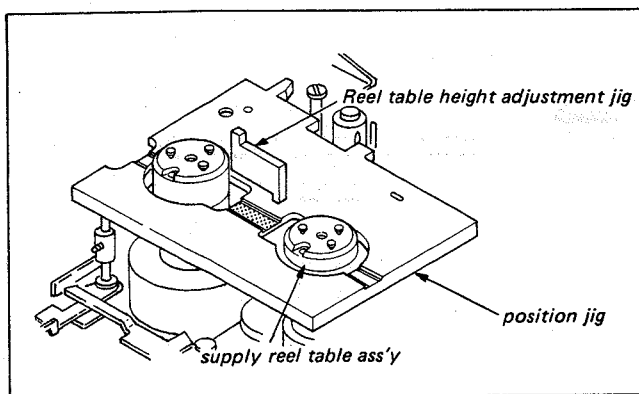

Fig. 4-5. Supply reel table height adj. (EJECT mode)
3. Install the Reel-Table Height Adj. Jig (Jig Ref. No. J-14), as shown in Fig. 4-5, in the shaded portion of the Position Jig.